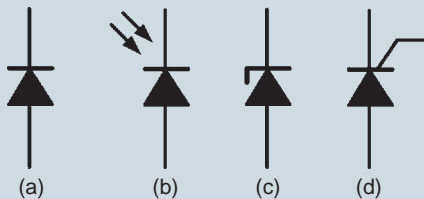

Figure 13.21
1. Identify the types of diodes shown in Fig. 13.21.